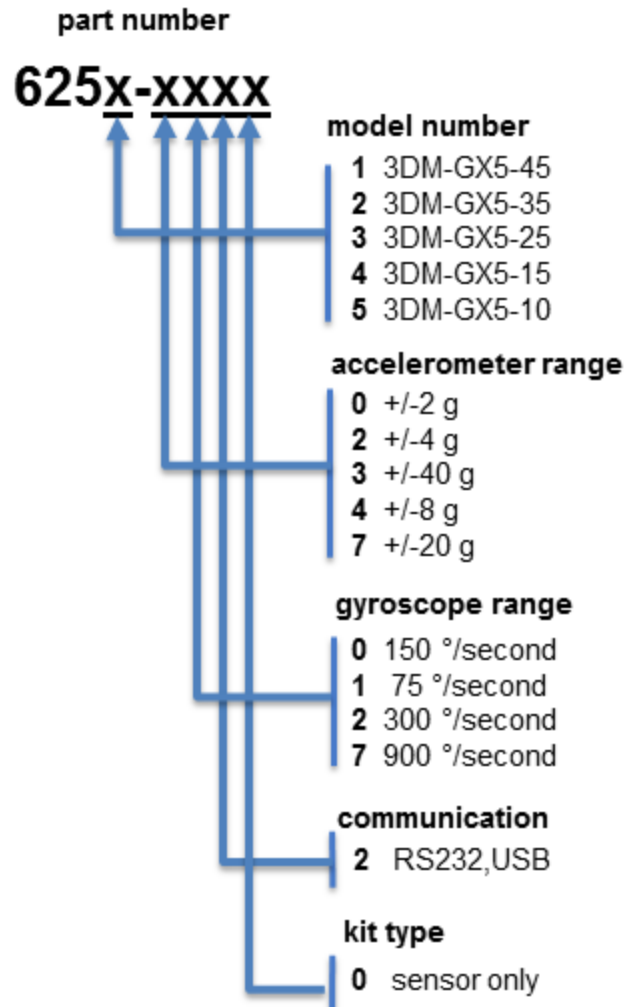

Figure 46 - Standard Part Numbers
*Table 6 - Model Numbers* describes the standard models available at the time this manual was published. Once a model is selected, the part number is further defined by desired configuration and interface options. The model determines the first four digits of the product part number; the options are indicated in the last four digits (*Figure 46 - Standard Part Numbers*).